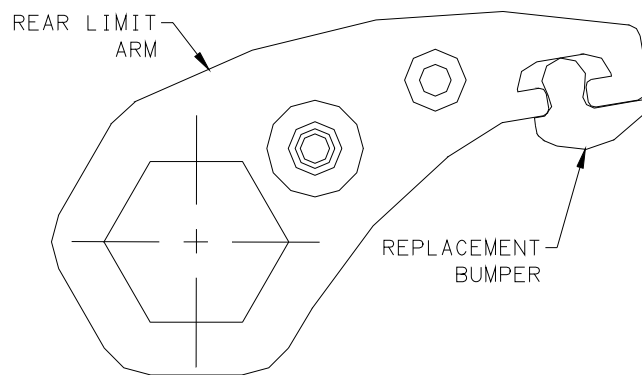

FIGURE 8
5. REMOVE OLD BUMPER AND DISPOSE OF PROPERLY. INSERT PROPERLY ORIENTATED REPLACEMENT BUMPER BY HAND AS FAR AS POSSIBLE. CONTINUE APPLYING PRESSURE USING PAIR OF ADJUSTABLE PLIERS UNTIL BUMPER IS FLUSH WITH REAR LIMIT ARM. SEE FIGURE 8.